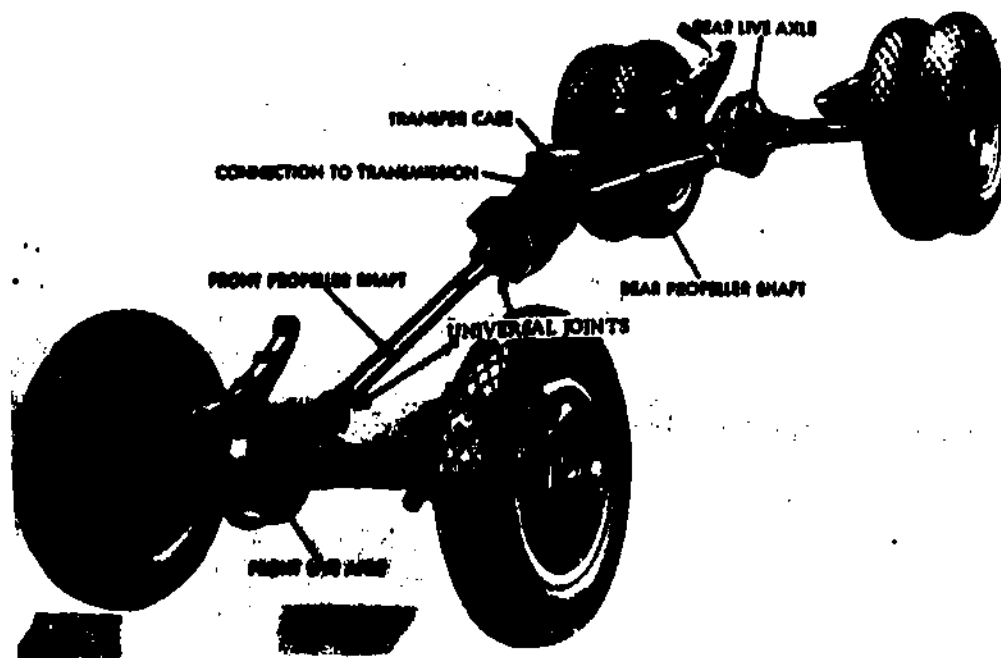

Fig 2-103. The propeller shafts.
a. **Propeller shafts and universal joint.** The propeller shafts shown in fig 2-103 are used to transmit power from the transmission and transfer to the front and rear axles. The propeller shafts are connected by a universal joint (fig 2-104). The propeller shaft (drive shaft) should be checked for dents and large amounts of mud. These conditions could affect the alignment and balance of the shaft which would cause vibration.